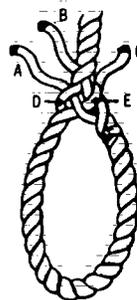

Figure 7-34. Making a Side Splice
- Step 1. Start by seizing the working end of the rope. Unlay Strands A, B and C, to the seizing and whip the end of each strand. Then twist the rope slightly to open up Strands D, E and F of the standing part of the rope, as indicated in Figure 7-34, Step 1.
- Step 2. The first tuck is shown in Figure 7-34, Step 2. The middle strand is always
Step 3. The second tuck is now made as illustrated in Figure 7-34, Step 3. Left Strand A of the working end is tucked under Strand D, passing over Strand E.
Step 4. Figure 7-34, Step 4 illustrates how the third tuck is made. To make Strand F easy to get at, the rope is turned over. Strand C now appears on the left side.
Step 5. Strand C is then passed to the right of and tucked under Strand F, as illustrated in Figure 7-34, Step 5. This completes the first round of tucks.
Step 6. Figure 7-34, Step 6 illustrates the second round of tucks started, with the rope reversed again for ease in handling. Strand B is passed over Strand D and tucked under the next strand to the left. Continue with Strands A and C, tucking over one strand and then under one to the left. To complete the splice, tuck each strand once more.
Step 7. Remove the temporary seizing and cut off the strand ends, leaving at least 1/2" on each end. Roll the splice back and forth under your foot to even up and smooth out the strands. The completed Eye Splice is illustrated in Figure 7-34, Step 7.